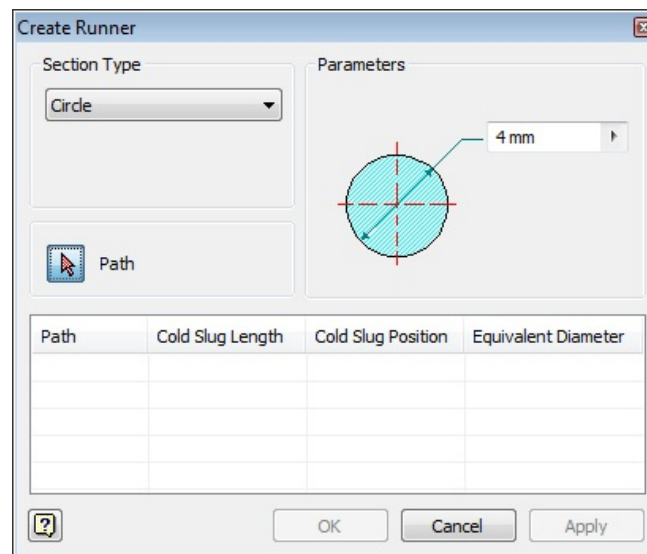

Figure 19-82 The Create Runner dialog box
1. Choose the **Runner** tool from the **Runner** drop-down in the **Runners and Channels** panel in the **Mold Layout** tab of the **Ribbon**; the **Create Runner** dialog box is displayed, as shown in Figure 19-82.